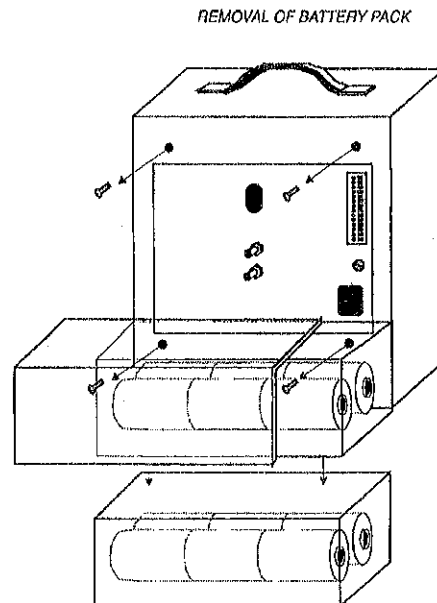

Figure 3-4. Remove Four Screws that Secure the Chassis to the Enclosure.
4. The printed circuit board is connected to the analyzer by a cable which will be disconnected in Step 6. Locate the two screws which secure the battery pack enclosure to the rear of the A-Plus cabinet. These screws are on the wall of the box just above the battery pack. Remove these screws and the two screws above them, Figure 3-4.